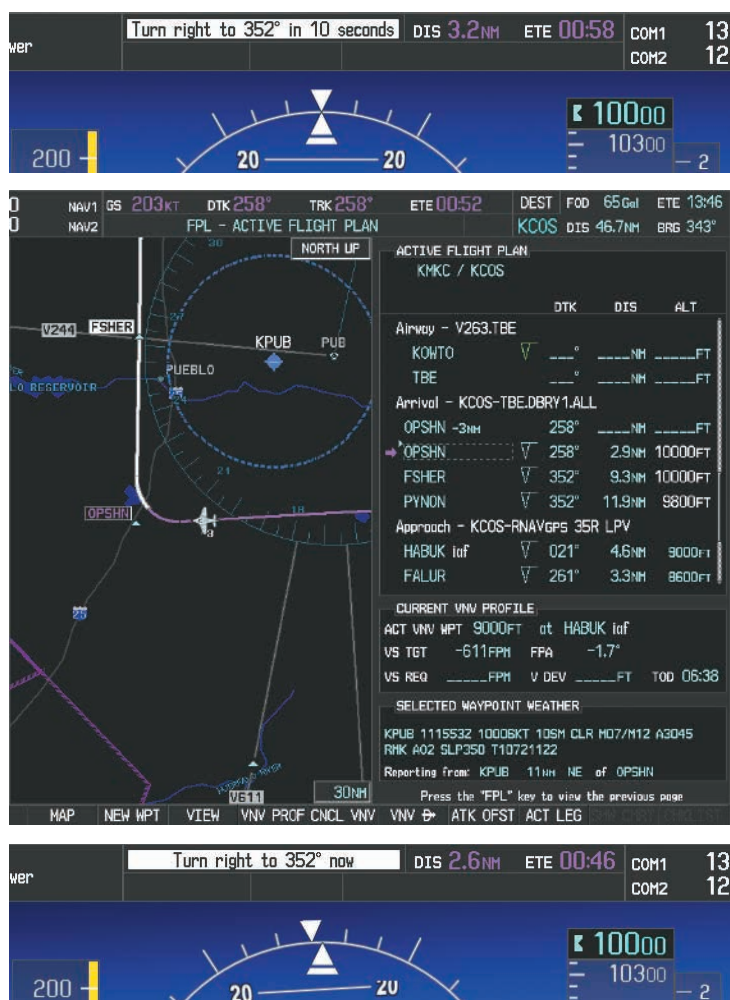

Figure 5-142 Turn to intercept OPSHN to FSHER Leg
- 18) The aircraft is approaching OPSHN. The upcoming turn and next heading are annunciated at the top left of the PFD as seen in Figure 5-142. Initiate the turn and maneuver the aircraft on a track through the turn radius to intercept the magenta line for the OPSHN to FSHER leg and center the CDI.